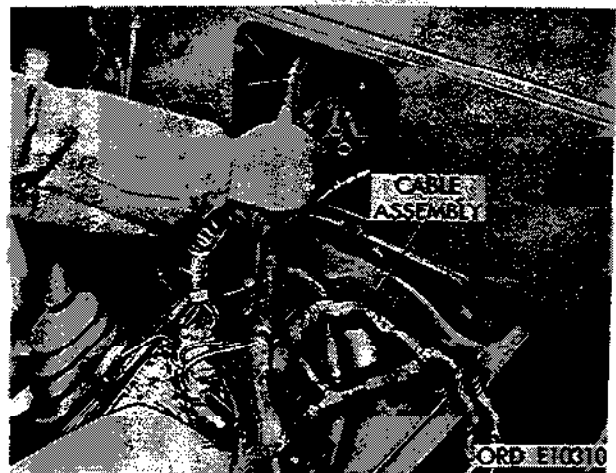

Figure 2-246. Remove front harness from vehicle.
(33) Push front harness assembly out from inside of vehicle (see fig. 2-246).